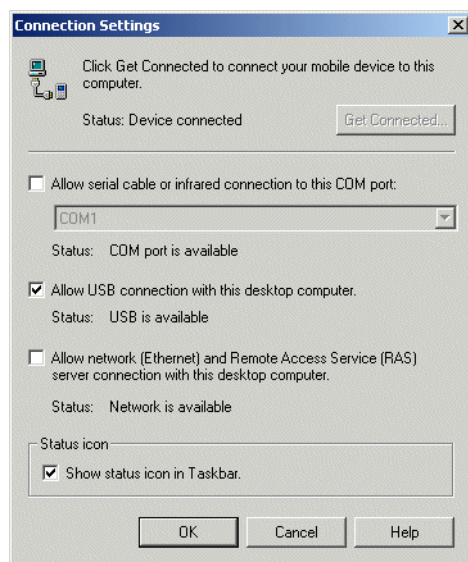

Figure 2-18 USB Connection Settings
12. In the *ActiveSync* window, select *File > Connection Settings* and ensure the selections shown in Figure 2-18 are made.